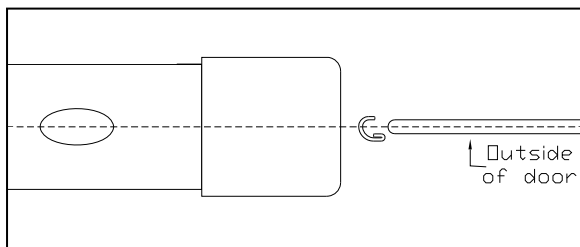

Fig. 1-4
**NOTE: BEFORE PROCEEDING IT IS EXTREMELY IMPORTANT TO PROPERLY ALIGN THE DOOR EDGE, DOOR EDGE GUARD CHANNEL AND MALLET AS SHOWN IN FIG. 1-4**